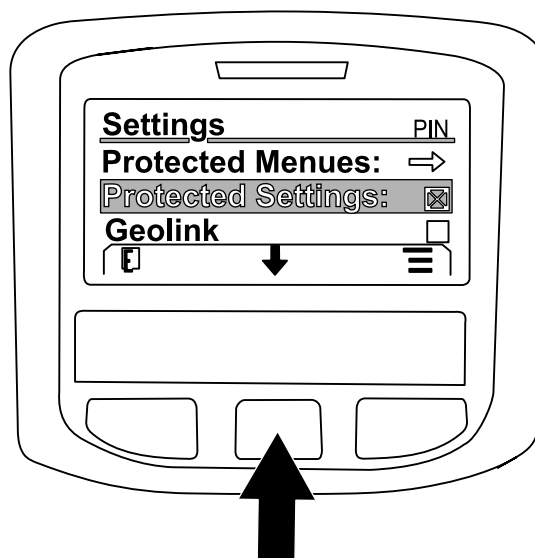

Figure 229
7. Press the center button to navigate to the GEOLINK option, and press the right button to set the option (Figure 229).